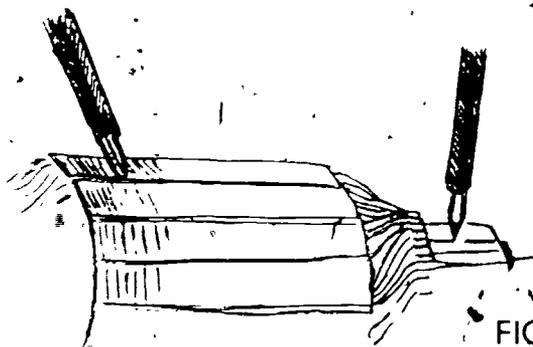

FIGURE 7
7. Test armature for ground (Figure 7)